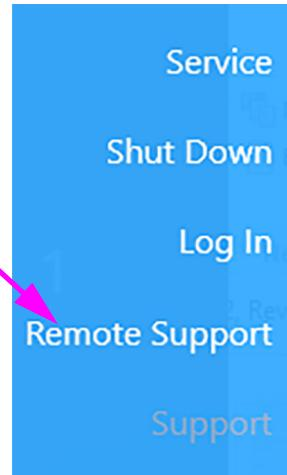

Figure 8-5. Menu Items Drop-down
1. On the Home screen, select the **Gear** icon in the upper right corner of the touchscreen display to show the Menu Items drop-down. See Figure 8-5.